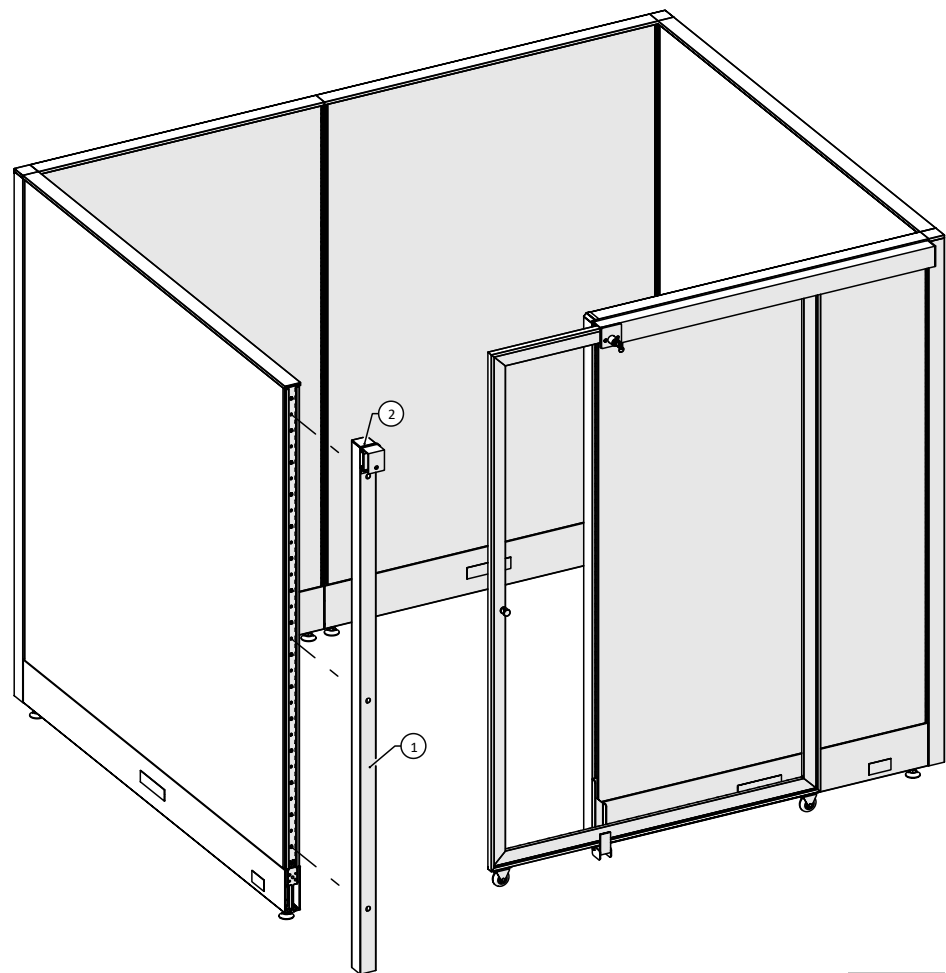

Figure 2
2. Align the sliding door post to the side of the panel and flush it with the top of the panel; check the 3 holes of the sliding door post if there's a screw visible. If there's a screw, unscrew that screw from the panel and use it to fasten the sliding door post, (Figure 2).